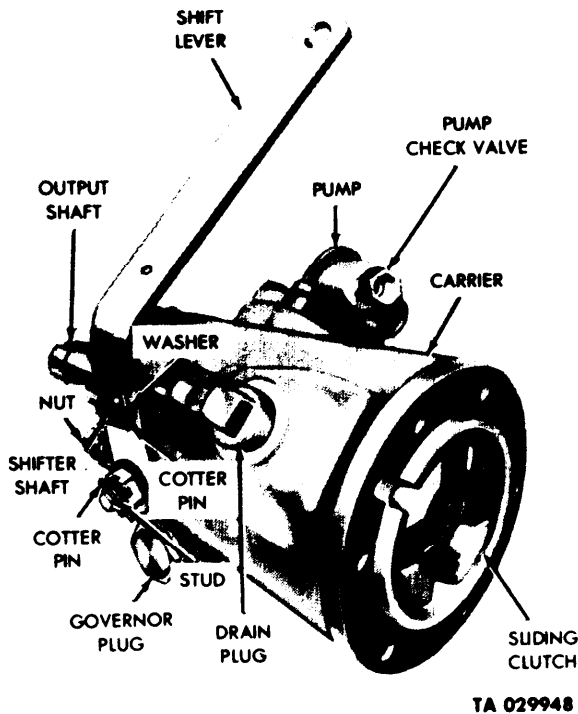

Figure 5-29. Drain Plug, Two Cotter Pins, Nut, Washers, and Shifter Shaft.
(1) Remove the drain plug (fig. 5-29) and drain the power takeoff.
(2) Remove the two cotter pins, nut, and washers securing the shift lever to the carrier. (See fig. 5-29.) Remove the shift lever from the carrier.
- f. Drain plug and shift lever. (See fig. 5-29.)